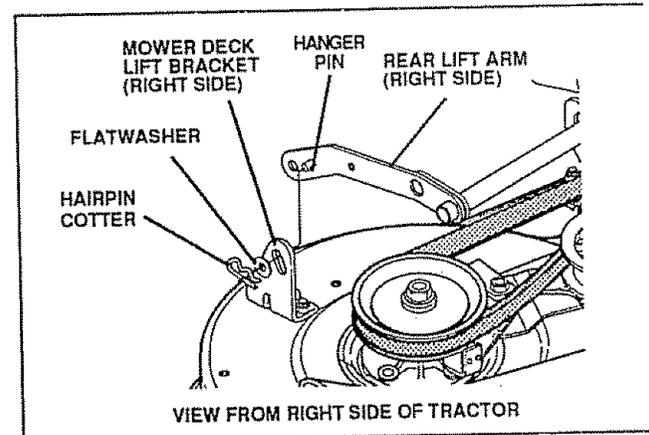

FIG. 21
- Remove hairpin cotter and Flatwasher from hanger pin of right rear lift arm and slide off right mower deck lift bracket (see Fig. 21).
- Remove hairpin cotter and Flatwasher from hanger pin of left rear lift arm and slide off left mower deck lift bracket (see Fig. 21).
- Underneath the footrests of the tractor, remove hairpin cotters and flatwashers from left and right hand hanger pins and lay aside (see Fig. 21).
- Place cutting height adjustment pedal in lowest position by moving memory rod to position 1 and pressing pedal latch to release cutting height adjustment pedal. **NOTE:** Be sure left and right lift arms are to the inside of left and right deck lift brackets (see Fig. 21).
- Lift deck slightly and flex right rear hanger pin inward to snap hanger pin into right deck lift bracket slot. Secure hanger pin in place with Flatwasher and hairpin cotter removed earlier (see Fig. 21).